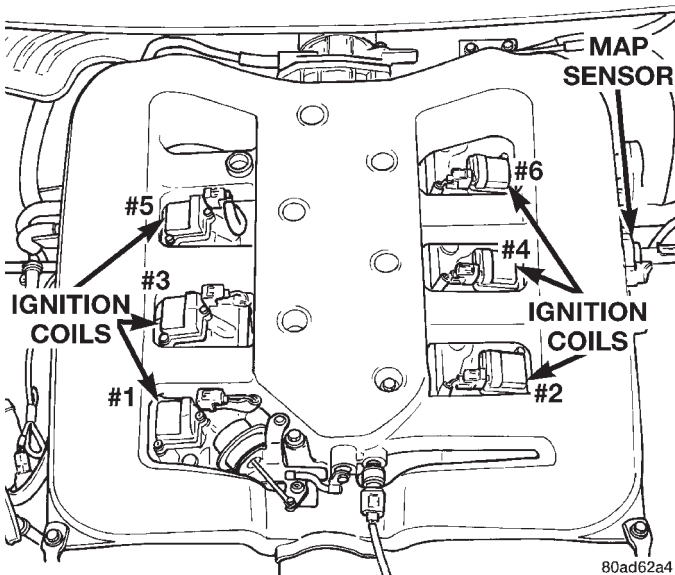

Fig. 34 Ignition Coils
(1) Remove air cleaner assembly and upper intake manifold plenum. Refer to Group 11, Exhaust System and Intake Manifold for procedure.
(2) Cover lower intake manifold with a suitable cover during service.
(3) Disconnect electrical connectors and remove ignition coils (Fig. 34).